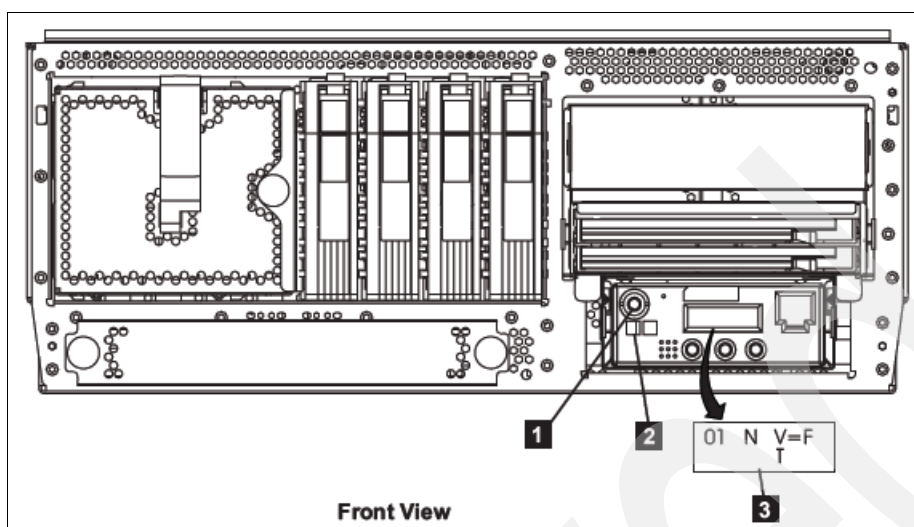

Figure 6-3 Enterprise Controller operator panel
3. When the Enterprise controllers are in standby mode (blinking green light-emitting diode (LED) 2 on the operator panel), press the power ON button 1, which is located on the Enterprise controller's operator panel. The controller panel displays READY or the information shown in 3 when the controller has powered on successfully; see Figure 6-3 on page 95.